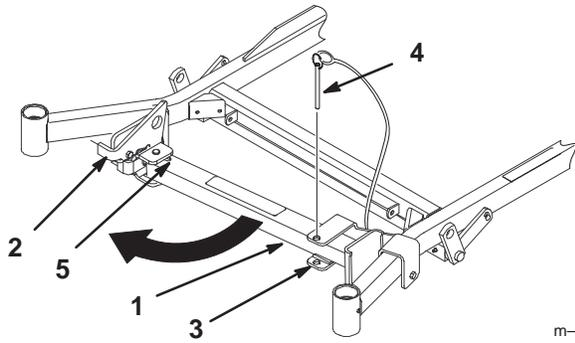

Figure 24
- Remove bracket pin (Fig. 24).
- Raise latch. Swing stand foot out front and slide stand toward machine, into the bottom of slot (Fig. 24 and 25).
- Return stand to its rest position (Fig. 24).